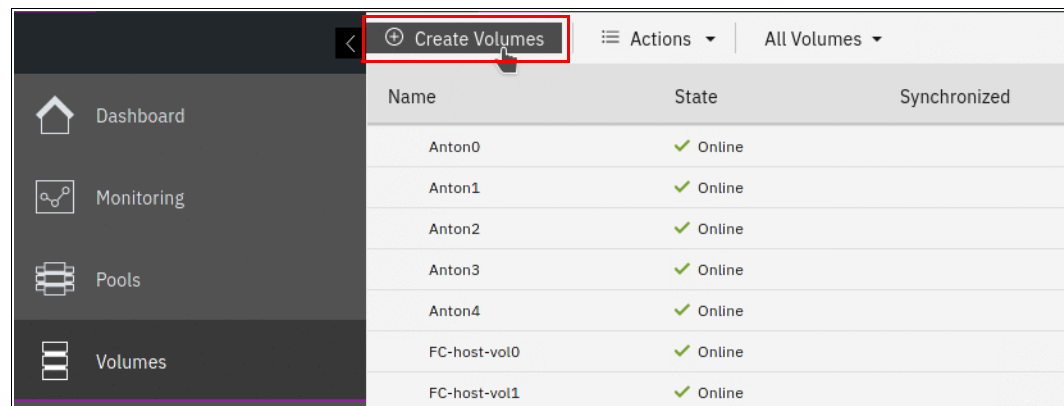

Figure 6-11 Create Volumes
2. To create a volume, click **Create Volumes**, as shown in Figure 6-11.